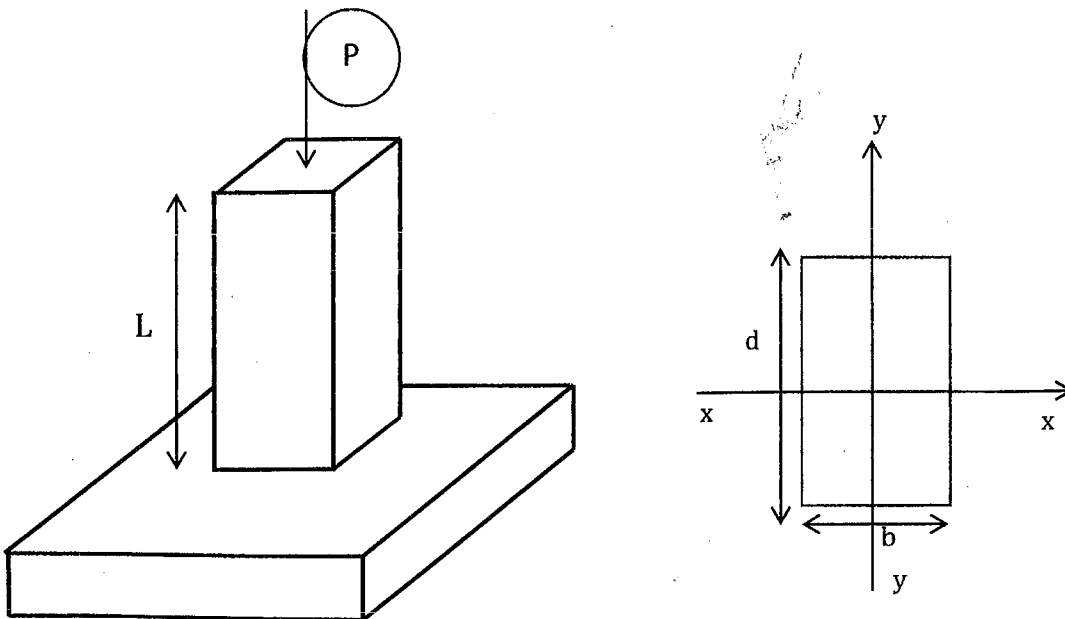

Figure 2
c. Given an Aluminum ($E=80\text{GPa}$) column built in the ground has length, $L=3.2\text{m}$ and is under axial compressive load, P as shown in figure 2. The dimension of cross section area, $b=200\text{mm}$ and $d=250\text{mm}$.